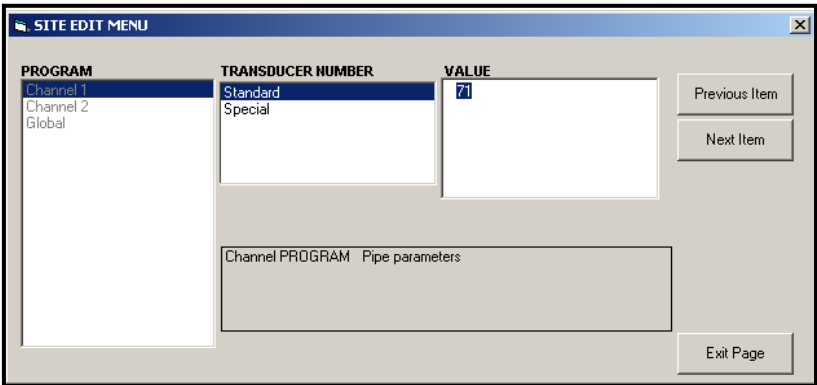

Figure 42: Pipe Parameters Option in the *Site Edit Menu*
- a. Highlight and double-click on the desired option in the center pane. Figure 42 on page 92 shows the first entry (Transducer Number) in the *Pipe Parameters* option. The title above the center pane lists the current entry, while the center pane displays the available selections for that entry.